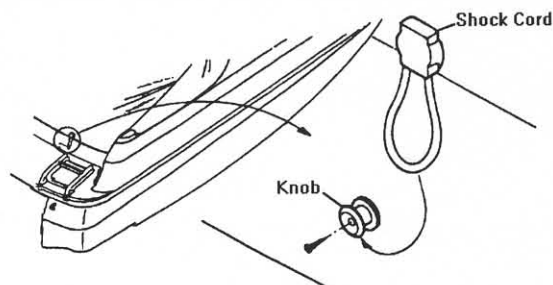

Figure O1: Shock Cords
7. Attach the aft curtain's shock cords to knobs along the stern as shown in Figure O1. Be sure canvas is centered on stern.
- b. If the canvas has shock cords along the aft edge, attach to knobs as shown in Figure O1.